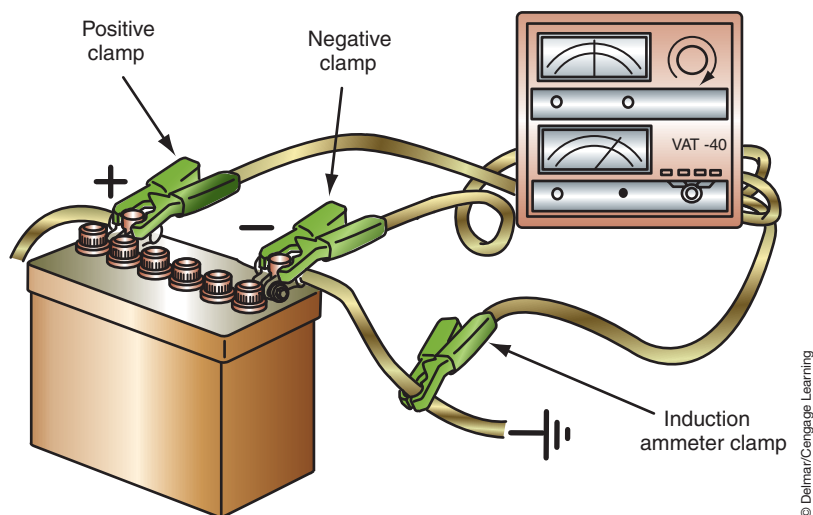

FIGURE 6-7 Test lead connections to perform the starter current draw test.
3. Connect the amps inductive probe around the battery ground cable. If more than one ground cable is used, clamp the probe around all of them (Figure 6-7).